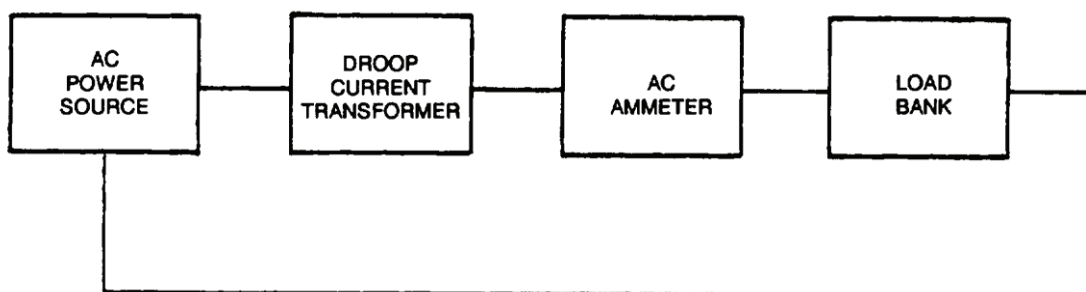

Figure 1. Testing Droop Current Transformer.
3. Inspect droop current transformer (WP 0100, Figure 1, Item 8) for cracked housing, security, broken wire terminals, loose or missing hardware, and other damage.
4. Tag and disconnect main generator cables T2 and T8 from voltage reconnection board (WP 0098, Figure 1, Item 18).
5. Unwrap main generator cables T2 and T8 from droop current transformer (34). Note number and direction of wraps.
6. Tag and disconnect droop current transformer (34) electrical leads from terminal board (25).
7. Remove screws (33), nuts (32), and droop current transformer (34) from output box.
4. Set up a test circuit using 10 gauge wire (Figure 1). Make ten passes with wire through window of droop current transformer.
1. Install droop current transformer (WP 0098, Figure 1, Item 34) in output box with screws (33) and nuts (32).
2. Wrap main generator cables around droop current transformer (34) using same number of wraps noted during removal.
3. Connect main generator cables to voltage reconnection board (18). Remove tags.
4. Connect droop current transformer (34) electrical leads to terminal board (25). Remove tags. Close output box and engine access doors.
WP 0098, Steps: 10 & 12 & Figure 1, Item 37
WP 0100, Figure 1, Item 8